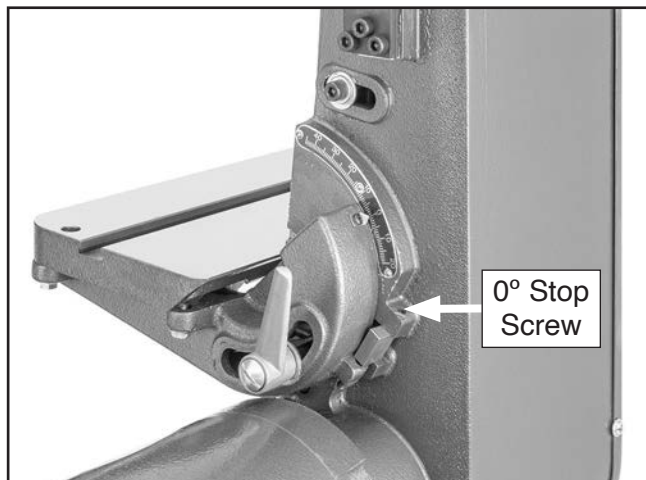

Figure 51. Flip stop engaging 0° stop screw.
7. Engage flip stop, then lower table until flip stop contacts 0° stop screw (see **Figure 51**).